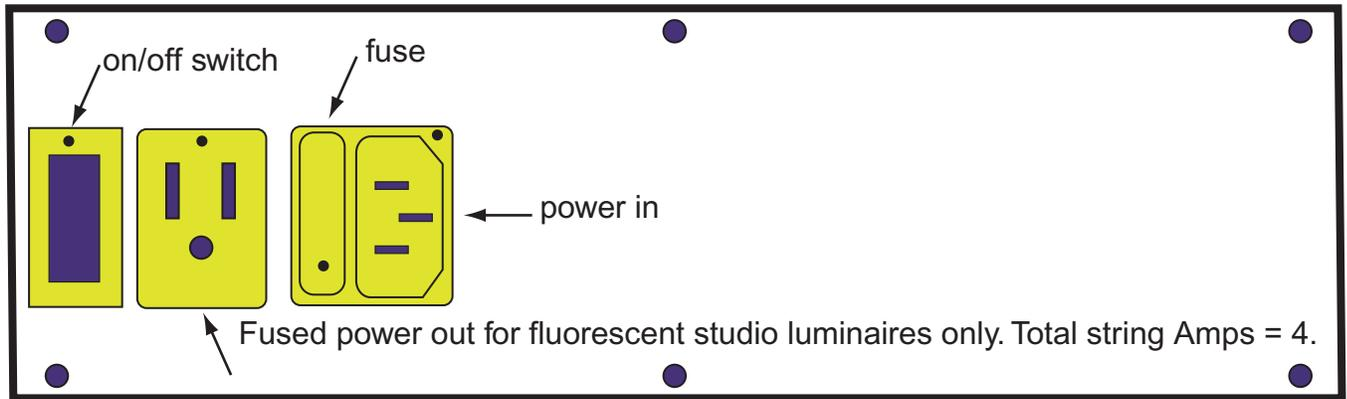

fig 2
The 1SLED XB2 is made of 16 gage aluminum and powder coated in non-reflective black. Honeycombs are made of aircraft alloy aluminum. Standard luminaires are equipped with detachable 10' long power cords. Each 120 volt cord is equipped with Edison 3 prong connectors. Other voltage models are shipped without plug unless specified. A fused power in and out receptacle is supplied for 120 volt models. Adjacent fixtures may be powered with this connector so long as the load does not exceed 4 amps. (fig. 2) Fuse is fast acting type 217, 10 amp, 250 V. The switch controls the power to the one fixture. Power is indicated when the switch is lit.
The control panel is shown in fig. 2. This panel is the same in appearance to the 0-10 volt dimming model. A label containing the serial number indicating voltage and dimming capacity can be found on this plate.
7. Control panel including switch and power connections. See fig. 2.
bench test each fixture. Plug the the power cord in one luminaire and turn the switch on the control panel (fig 2). The switch should be lighted if the unit has power. The lamps should start.